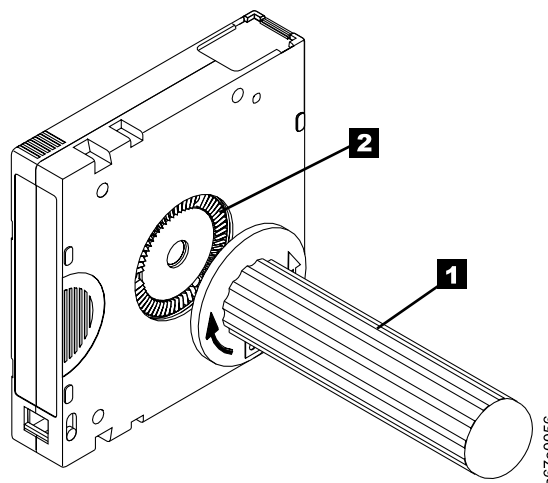

Figure 56. Rewinding the tape into the cartridge
5. To rewind the tape, insert the cartridge manual rewind tool (**1** in Figure 56) into the cartridge's hub **2** and turn it clockwise until the tape becomes taut.